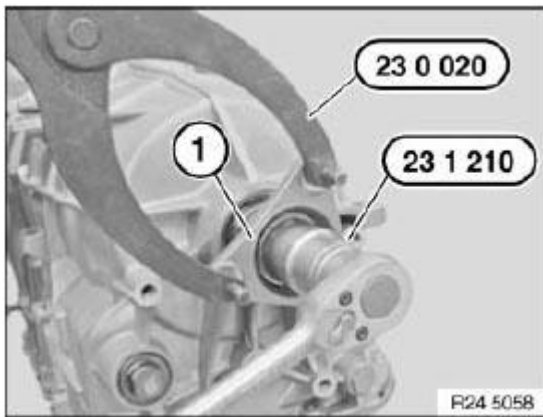

Fig. 35: Identifying Special Tools (23 0 020 And 23 1 210)
Grip output flange (1) with special tool **23 0 020** . See **Fig. 35**.
Release nut with special tool **23 1 210** . See **Fig. 35**.